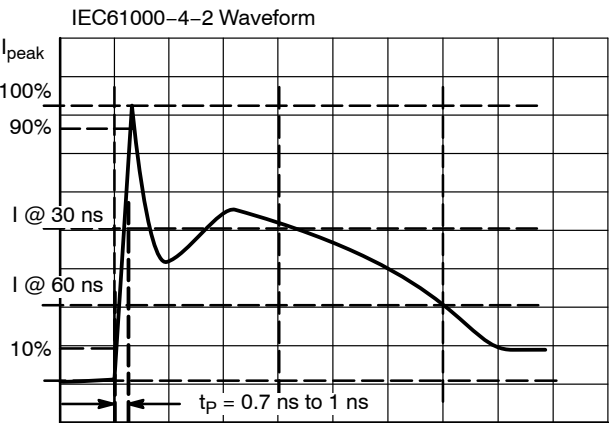

Figure 3. IEC61000-4-2 Spec
3. For test procedure see Figures 3 and 4 and Application Note .